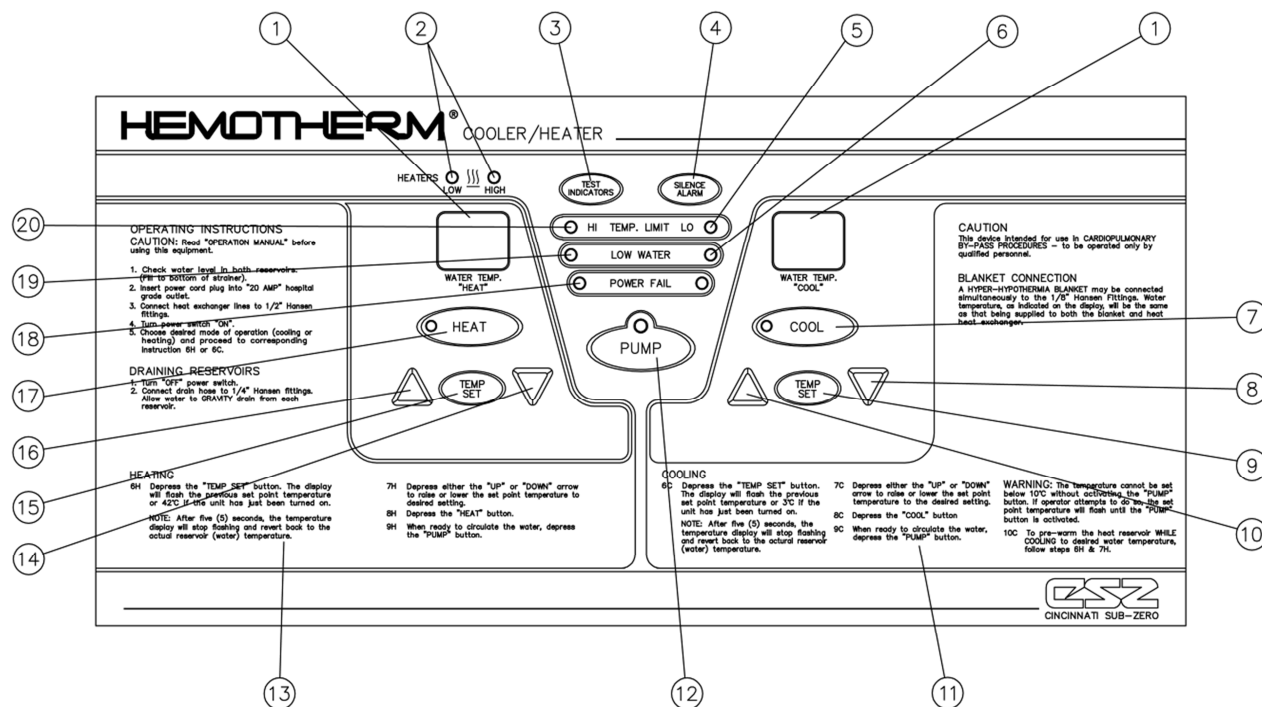

FIGURE 1-2, KEYPAD - 115V UNIT
**Reference Figures 1-2, 1-3, 1-4 & 1-5, Keypad Views**